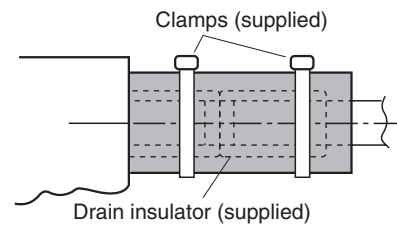

Fig. 1-109
- (2) After connecting the drain piping securely, wrap the supplied packing and drain pipe insulator around the pipe, then secure it with the supplied clamps. (Fig. 1-109)